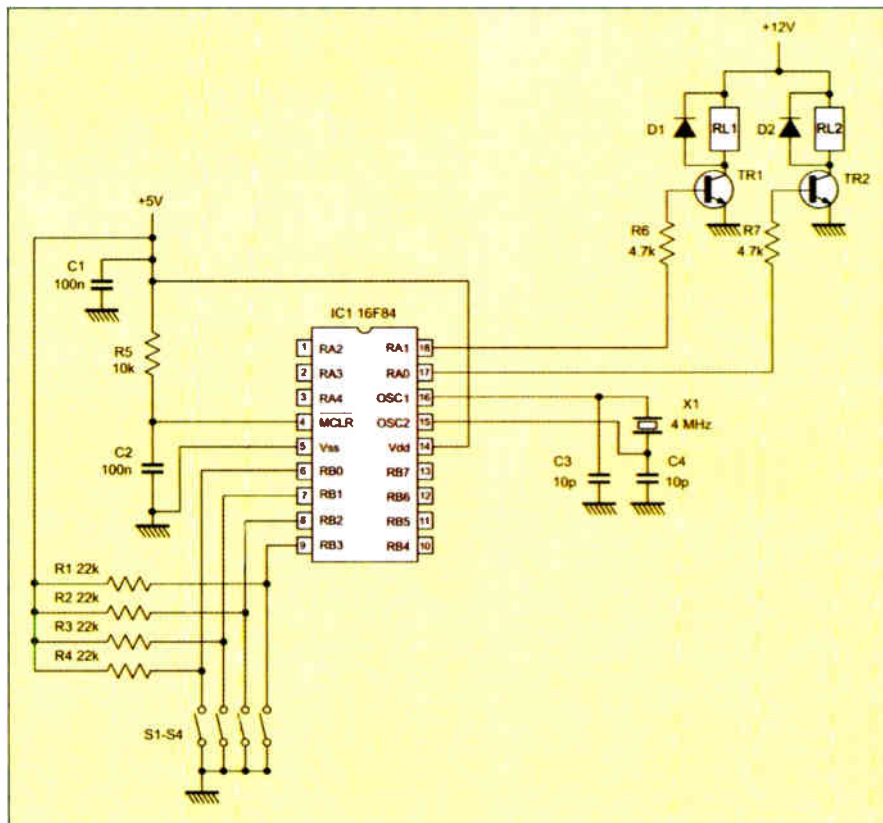

Fig. 10.2. A simple PIC application based on the PIC16F84 chip
A simple PIC application based on the PIC16F84 is shown in Fig.10.2. The circuit provides control for two relays (RL1 and RL2) based on the state of four single-pole single-throw (SPST) switches (S1 to S4). The switches are connected to four lines on Port B which are configured as inputs whilst the two relays are connected to two lines on Port A configured as outputs. Because the relays demand more power than can be supplied by the PIC, additional transistor current amplifier stages (TR1 and TR2) are used as "drivers".
- Referring to Fig. 10.2: